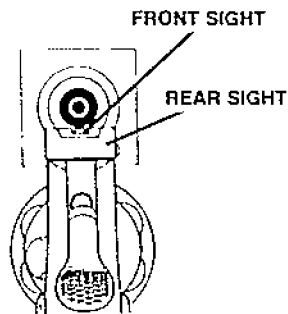

FIGURE 6—AIMING
3. (S) 2. Take aim by aligning target with front and rear sights (See Figure 6).